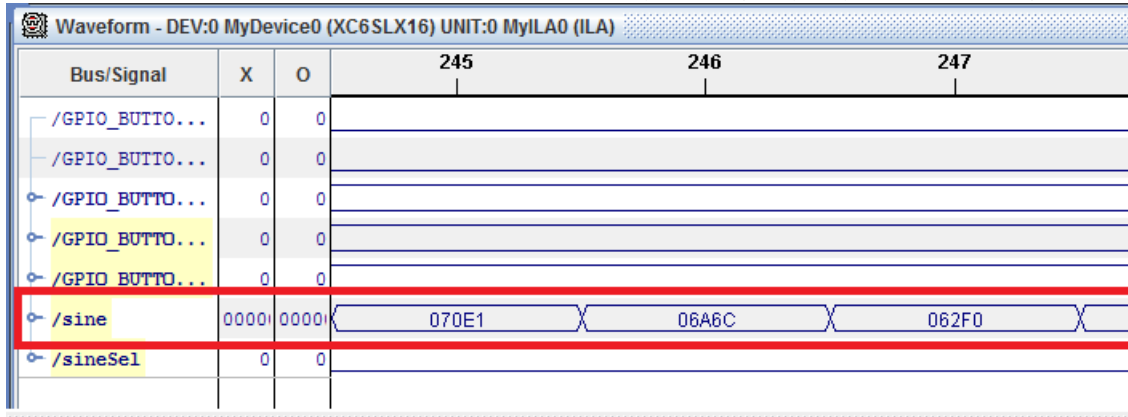

Figure 9: Verifying activity on the sine signal
1. With the **item DEV:0 MyDevice0 (XC6SLX16)** expanded, as shown in Figure 9, double-click **Trigger Setup**. The Trigger Setup display appears in the upper right pane.